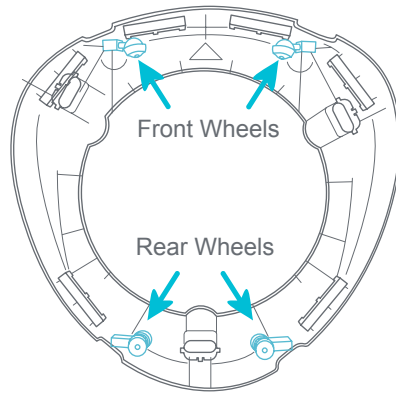

Fig. 6a
- 6 • Locate the two front wheels under the base shown on the diagram (Fig. 6a).
- 7 • Locate the two rear wheels on the diagram (Fig. 6a).